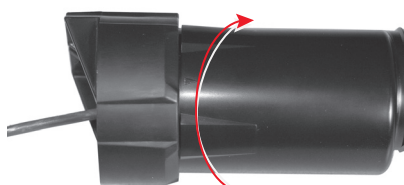

Figure 29: Twist endpoint to lock
6. With one hand holding the bracket, use the other hand to twist the endpoint approximately 1/4 turn clockwise until you feel it lock into place (Figure 29).